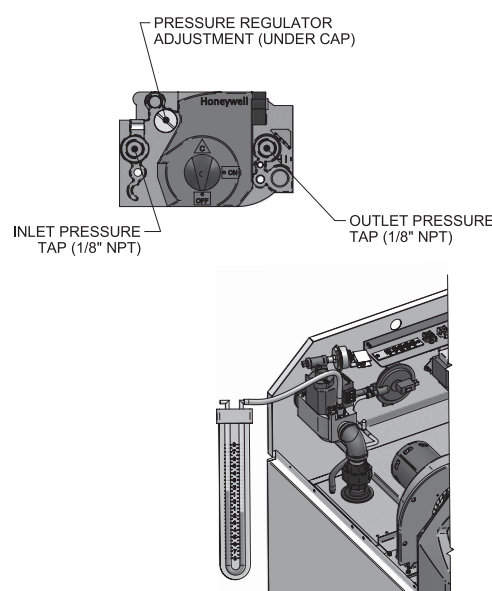

Figure 3-2_Manifold Gas Pressure Measurement
10. Remove the 1/8" hex plug, located on the "outlet" side of the gas valve and install a fitting suitable to connect to a manometer or magnahelic gauge (see FIG. 3-2). Minimum range of scale should be up to 5" w.c. for natural gas and 10" w.c. for propane gas.
17. If adjustment is necessary, remove the regulator cover screw on the gas valve (FIG. 3-2).